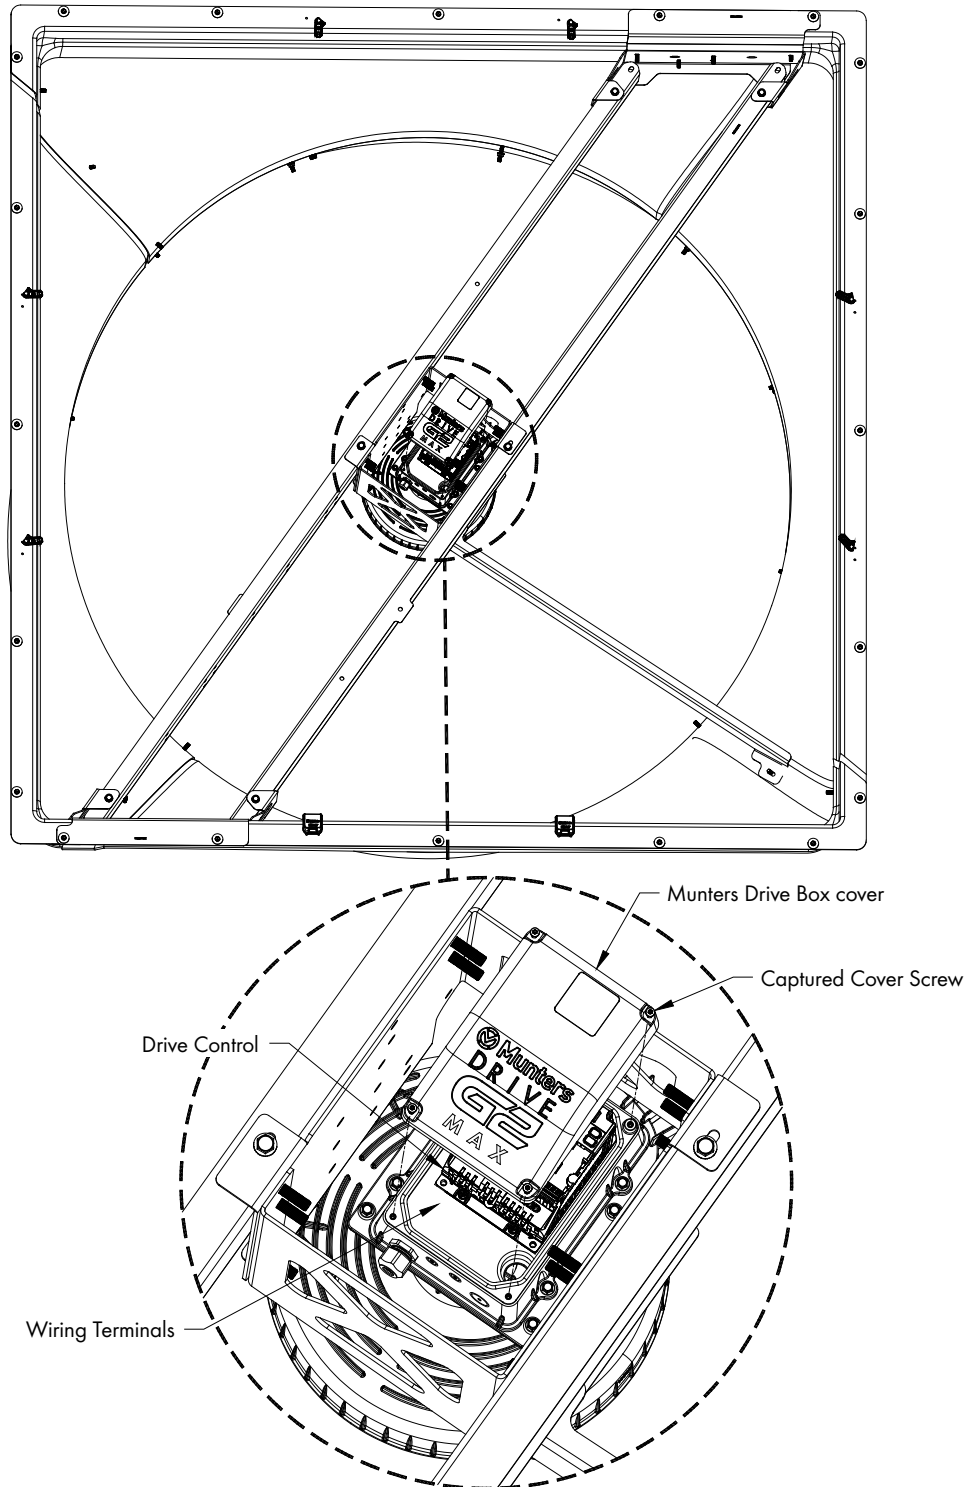

Figure 7
Reconnect the 3 phase power and the control wires per the note or photo taken in Step 2. Then replace the Enclosure Cover and secure with the (4) Captured Screws. See Figure 7. If needed refer to Chapter 3, Page 20, Atlas 74 wiring section for wiring options.